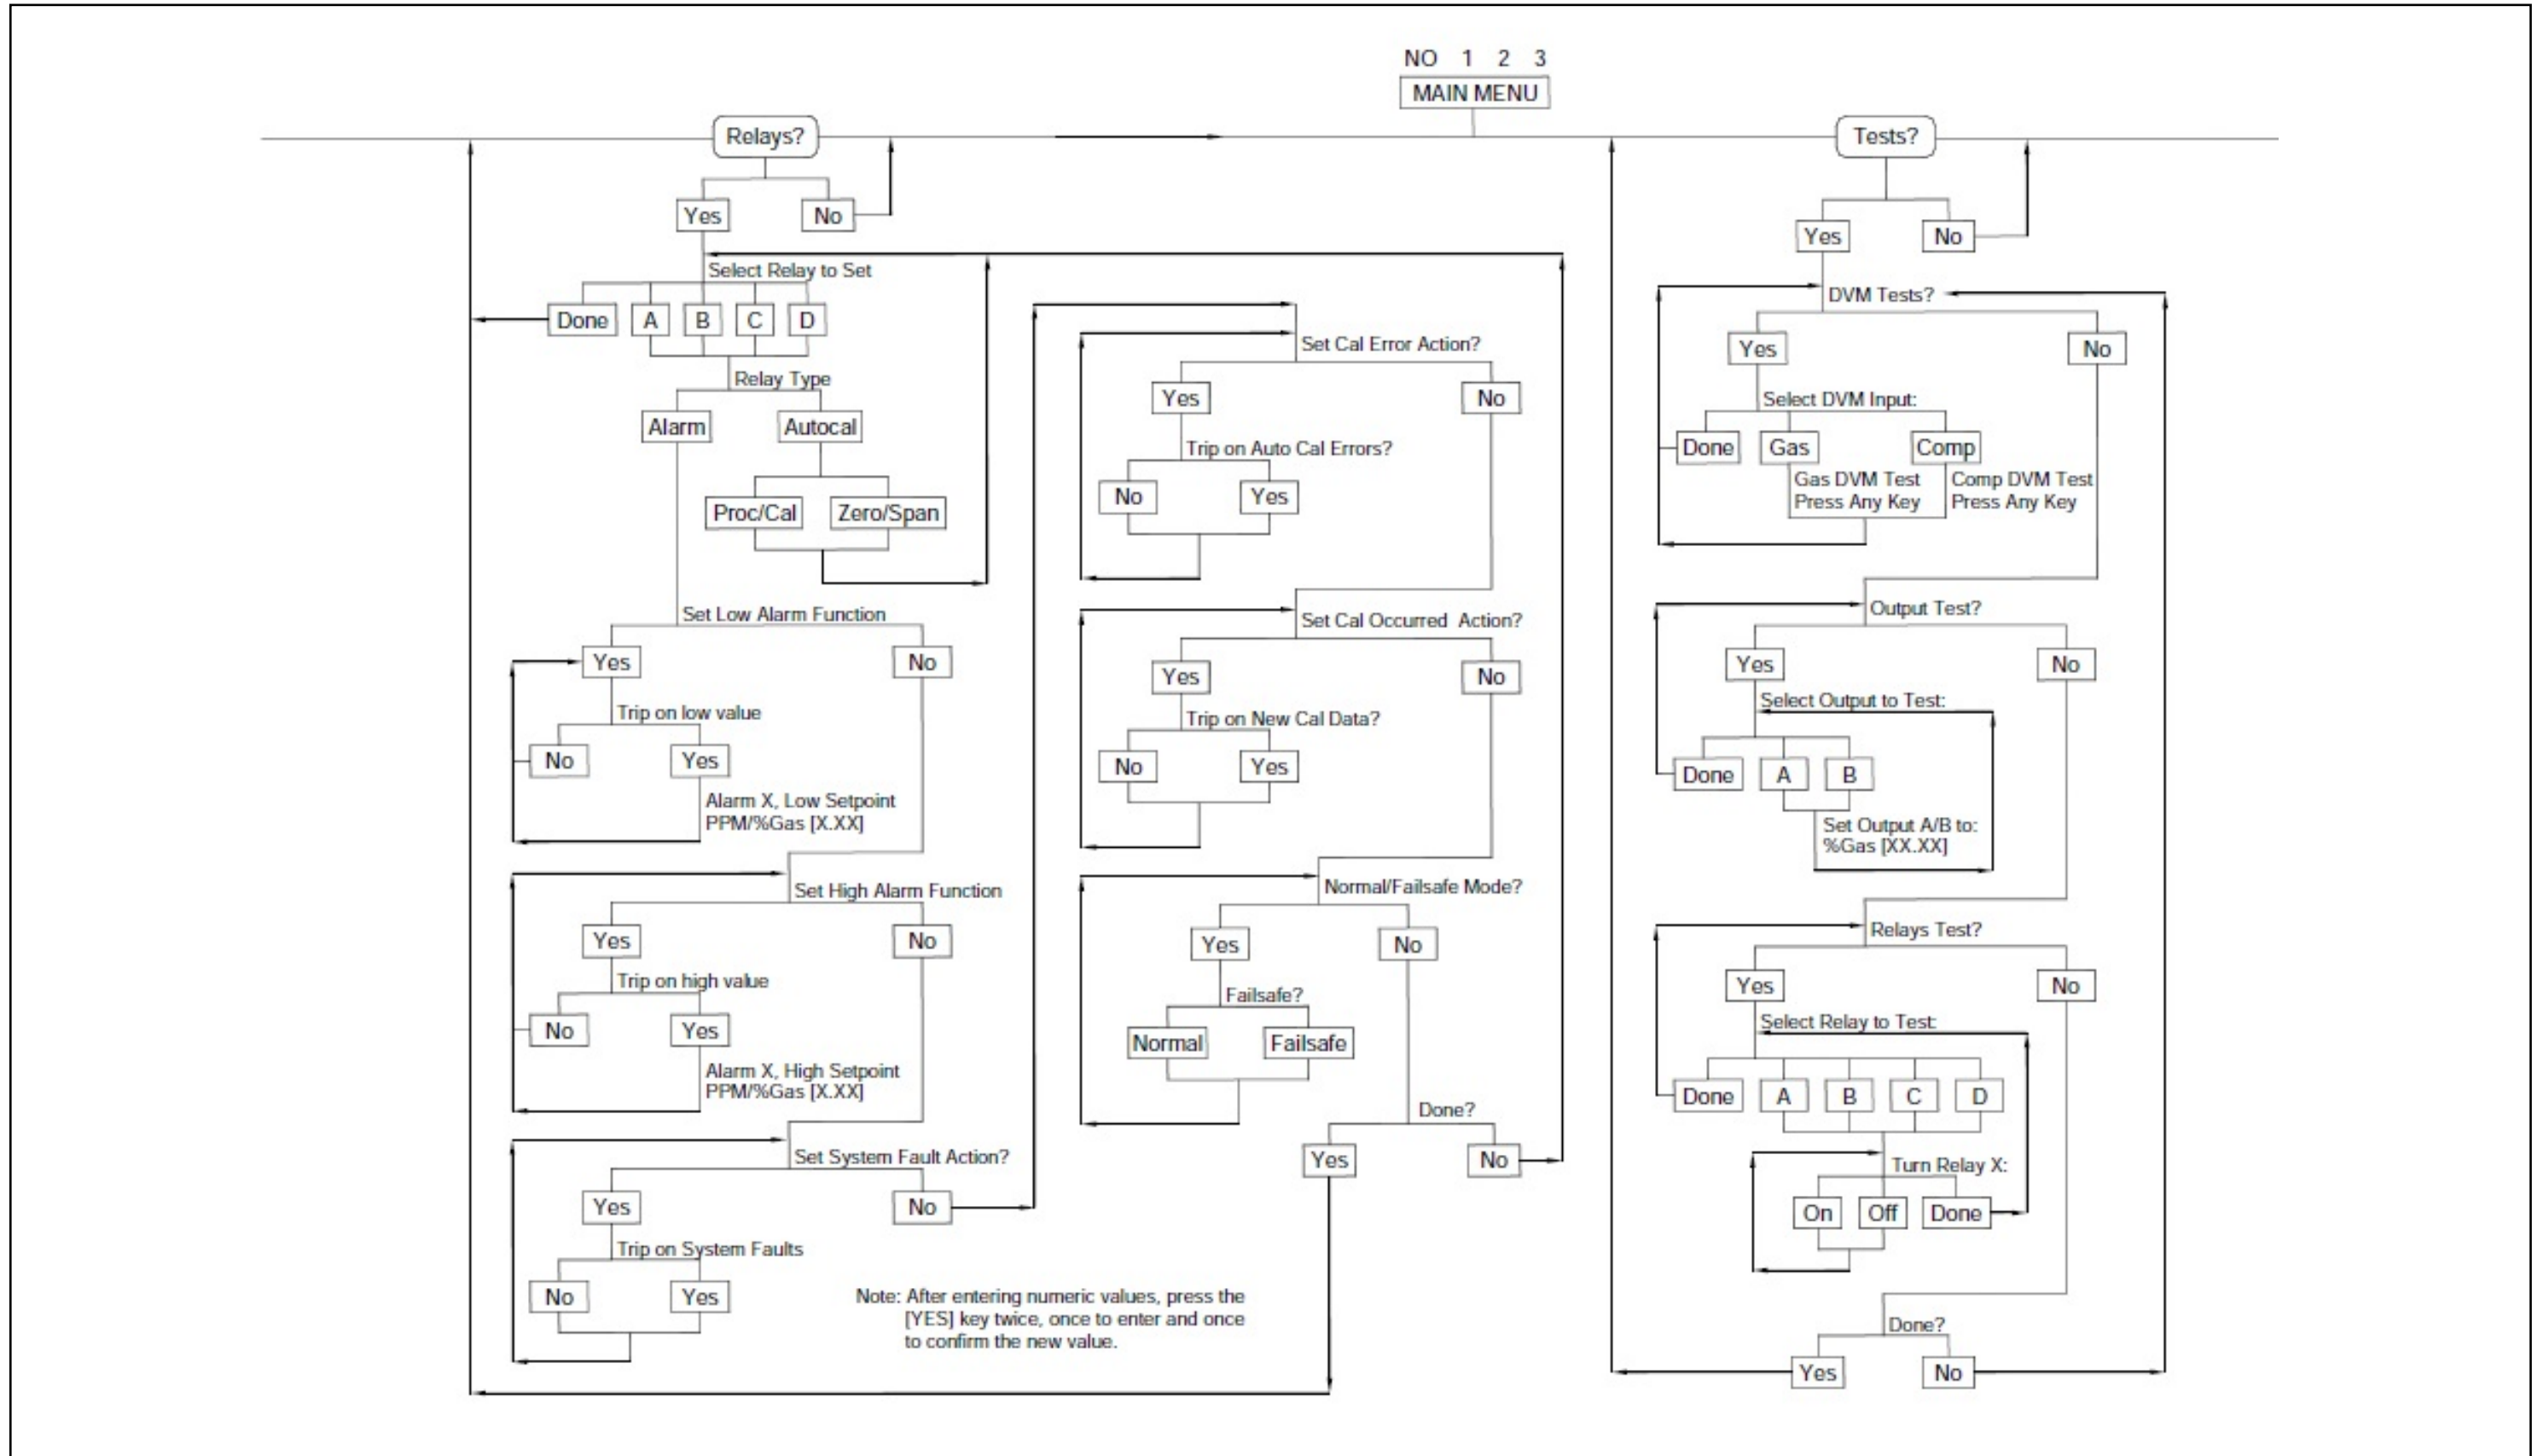

Figure 27: Main Menu: Relays and Tests
- Figure 27: Main Menu: Relays and Tests